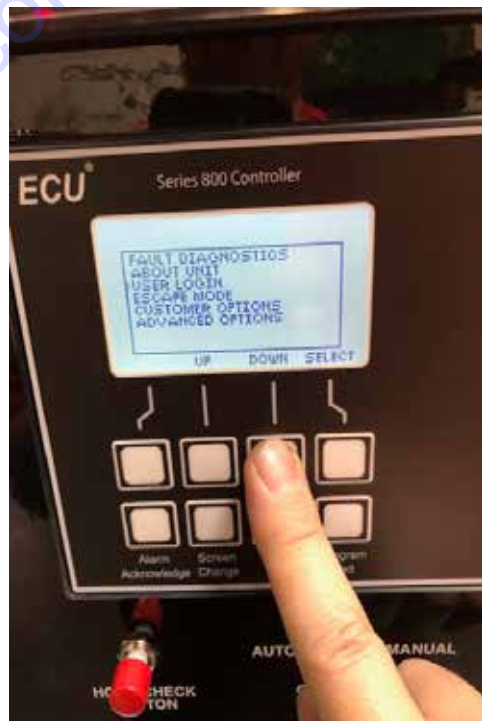

Figure 10. User Login/Down Button
4. Scroll down the list and select **USER LOGIN** by pressing the **DOWN** button (Figure 10).